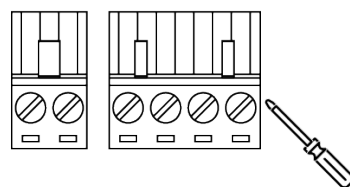

Figure 2
2. Tighten the wire-clamp screws to prevent the wires from loosening, as shown below in Figure 2.